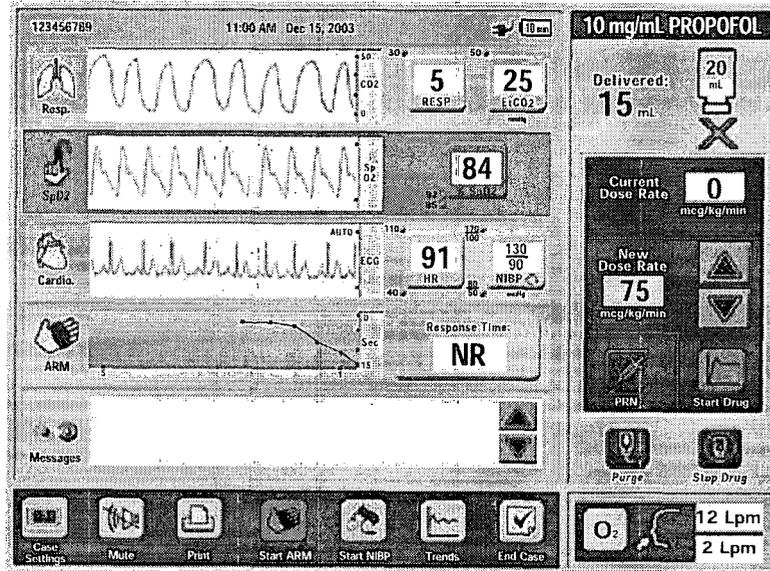

Figure 7-9 PRU Monitoring Screen During Red Alarm That Stop Drug Delivery
- The general background field and the shortcut button for the patient physiologic parameter that is causing the alarm change to red. In Figure 7-9 on page 7-9 below, the example shows the changes for a SpO2 alarm.